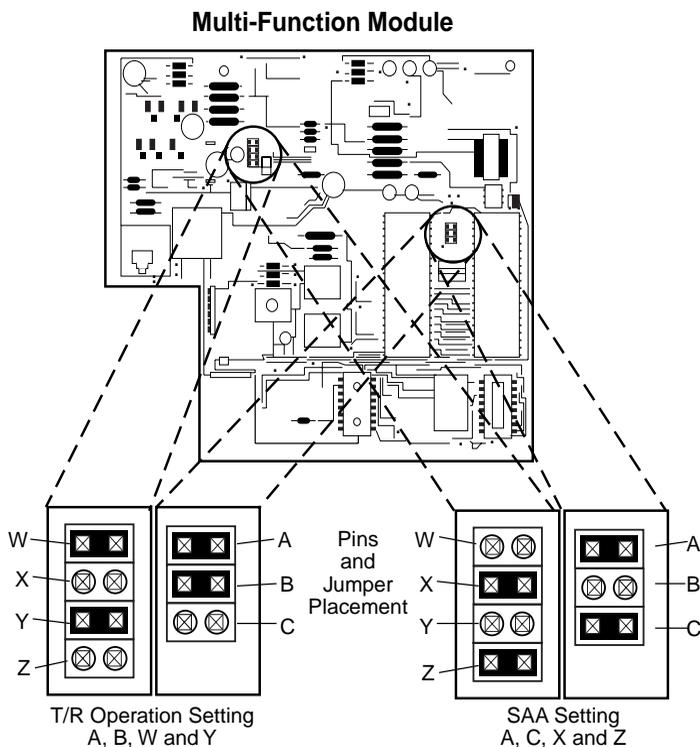

Figure 3-10. Setting and Adjusting the MFM Jumpers
- ▶ **6. Set or adjust the MFM jumpers for either a T/R device or a supplemental alert device. See Figure 3-10.**